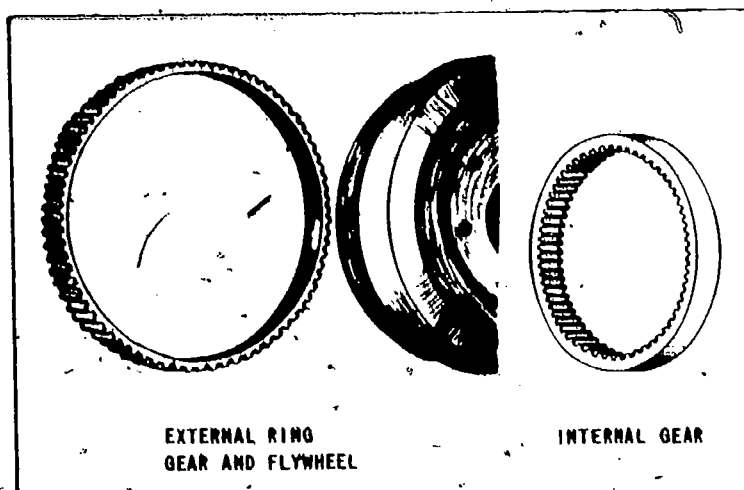

Fig 3-18. Ring gears.
- (d) Ring gears (fig 3-18). These gears have teeth either on the inside or the outside and are usually bolted, pressed, or constructed to another part. The most common uses are: the external ring gear that is pressed on the flywheel, the internal ring gear used to join two gears located on the same shaft, and the internal ring gear used in a planetary gear system.